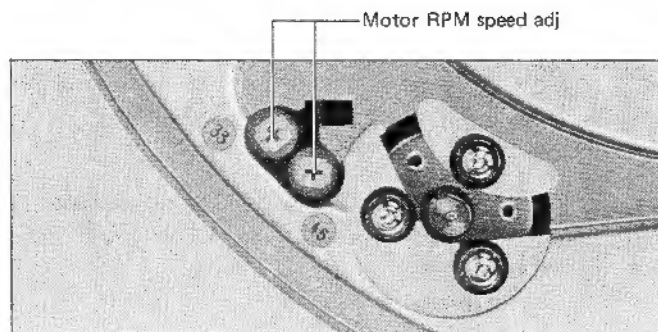

Fig. 11
### 6-(1) Motor RPM adjustment (Fig. 11)